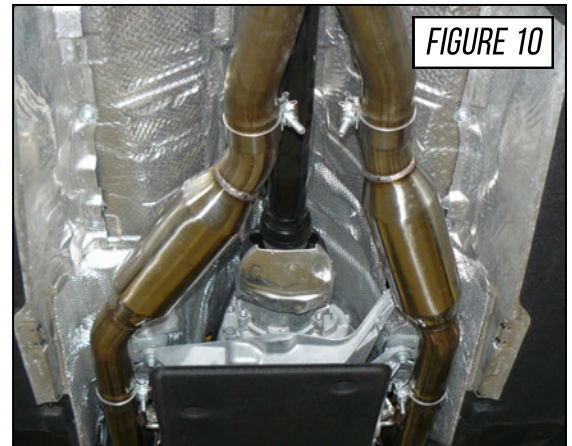

FIGURE 10
Place two (2) 2.5" Accu-Seal clamps over each inlet side of the downpipe lower sections (resonated parts B06 & B07, Non-resonated parts A69 & A70), install into place as shown on the resonated system in **Figure 10**. Be sure to fully seat the pipes over the corresponding downpipe upper sections outlet pipe.